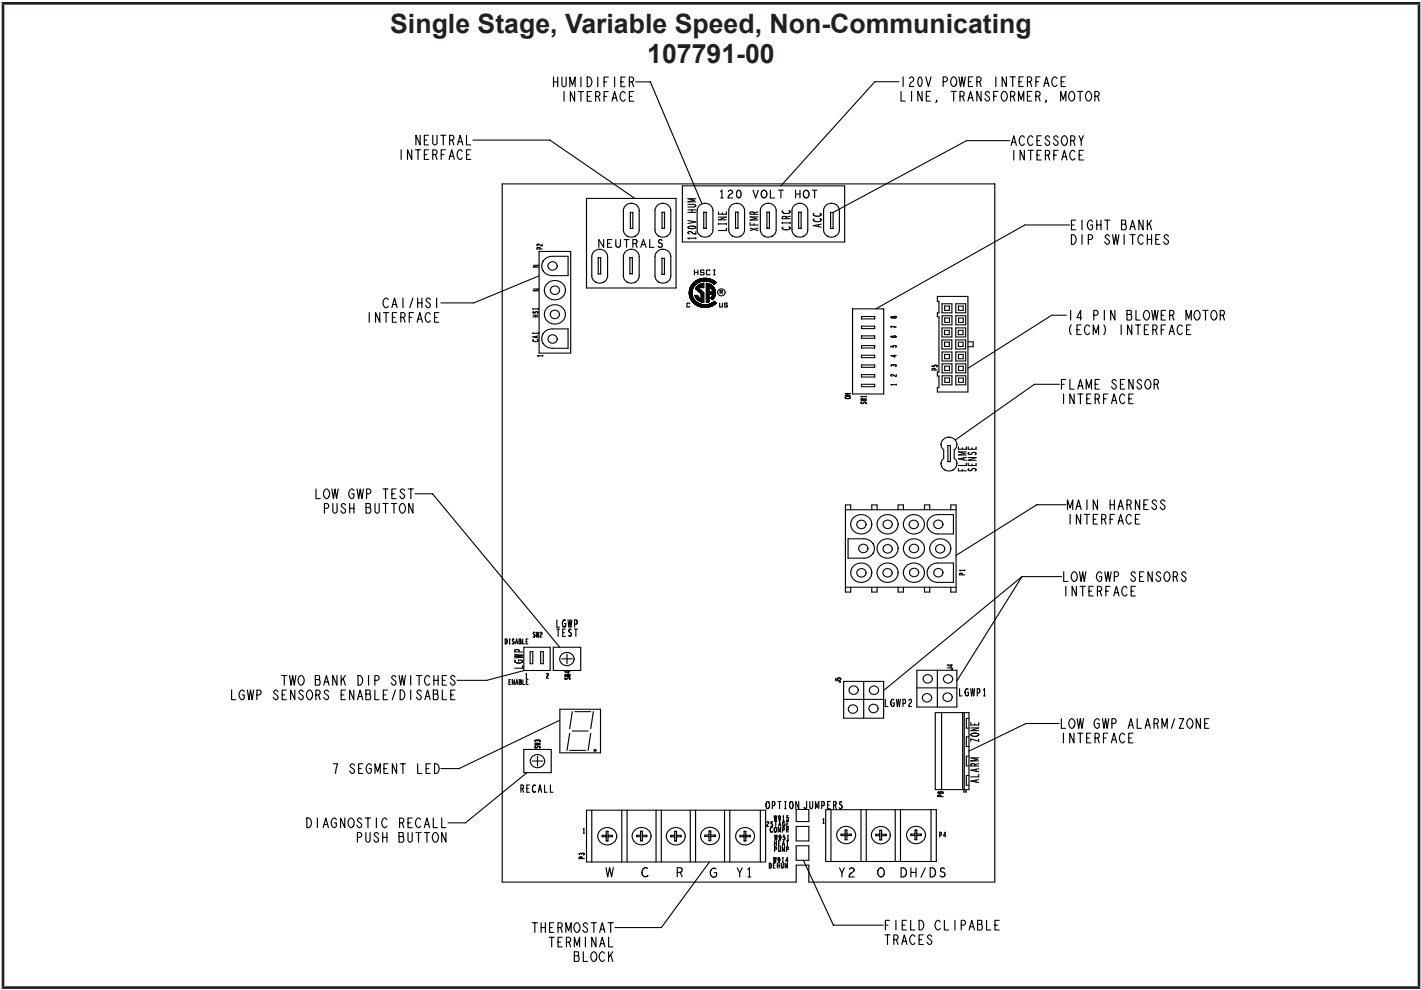

FIGURE 4
The hot surface ignition control system consisting of an integrated control (FIGURE 4) with control terminal designations in TABLE 1, TABLE 2 and TABLE 3, sensor and ignitor (FIGURE 9). The integrated control and ignitor work in combination to ensure furnace ignition and ignitor durability. The integrated control, controls all major furnace operations. The integrated control also features a RED LED for troubleshooting and two accessory terminals rated at (1) one amp. See TABLE 4 for troubleshooting diagnostic codes. The nitride ignitor is made from a non-porous, high strength proprietary ceramic material that provides long life and trouble free maintenance.
Diagnostic LED (FIGURE 4)
Diagnostic Push Button (FIGURE 4)